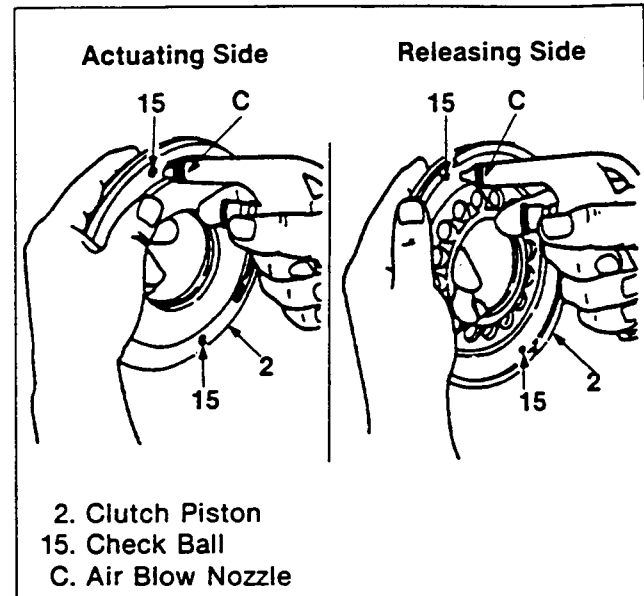

Figure 121. Check Ball Function Inspection
- Blow 294 – 392 kPa (42 – 56 psi) air to the check ball from both the actuating and releasing sides and check movement with finger (figure 121).